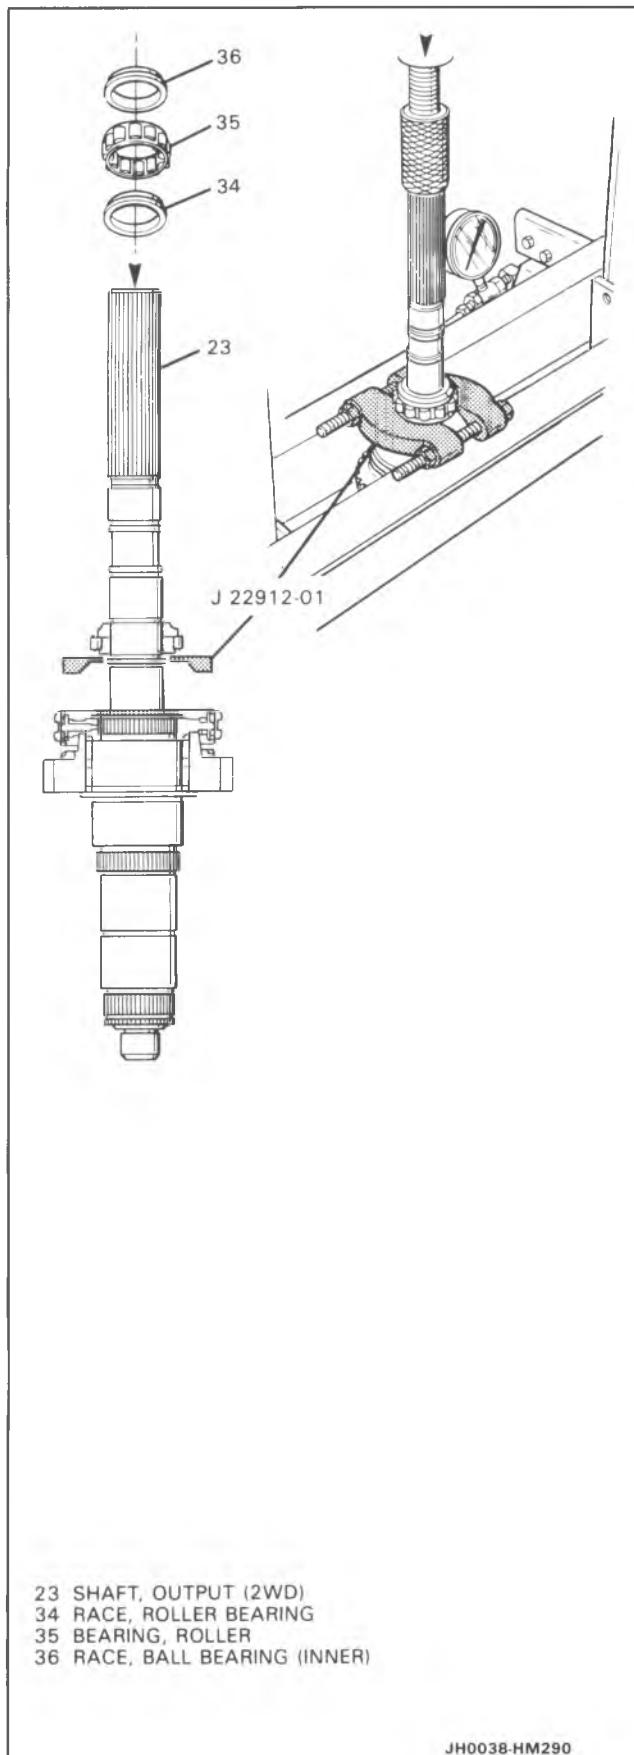

Figure 28 Removing 4-Speed Ball and Roller Races
5. Second speed gear assembly (18) and second speed gear bearing race (16) using J 36513 and hydraulic press.
6. Speed gear bearing assembly (17).
- Leave the synchronizer ring (2) on the 1-2 synchronizer assembly (19) to prevent the synchronizer detent balls (9) from popping out.
7. First speed gear (22) and 1-2 synchronizer assembly (19) using J 36513 and hydraulic press.
- Leave the synchronizer rings (2) on the 1-2 synchronizer assembly (19) to prevent the synchronizer detent balls (9) from popping out.
8. Speed gear bearing assembly (17).
9. Inner ball bearing race (36), roller bearing (35) and roller bearing race (34) using J 22912-01 and hydraulic press (Figure 28).